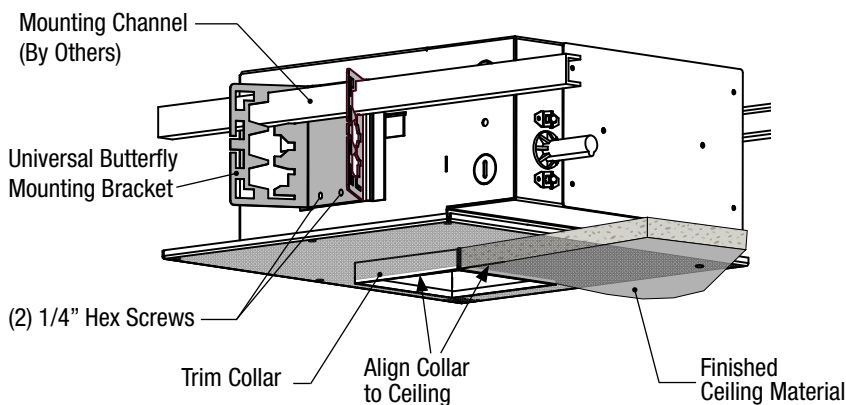

FIGURE 1
Step 6. Fine adjustments can be made by loosening the two (2) 1/4" HEX SCREWS on both UNIVERSAL BUTTERFLY MOUNTING BRACKETS and set collar depth accordingly **Fig 1.**